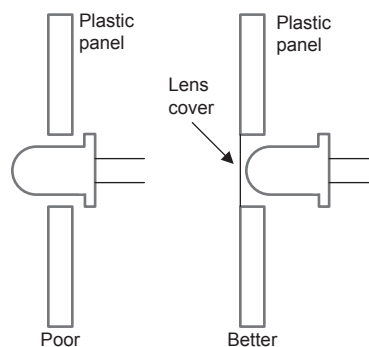

Figure 12. Shielding LEDs
- Shielding LEDs that are exposed on plastic enclosures with transparent and non-conductive lens covers (see Figure 12)